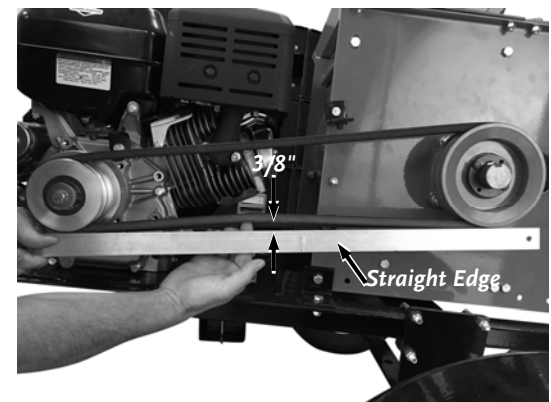

Figure 16
2. Place a Straight Edge on the bottom of the Belt from the Clutch Pulley to the Drive Pulley (**Figure 16**).